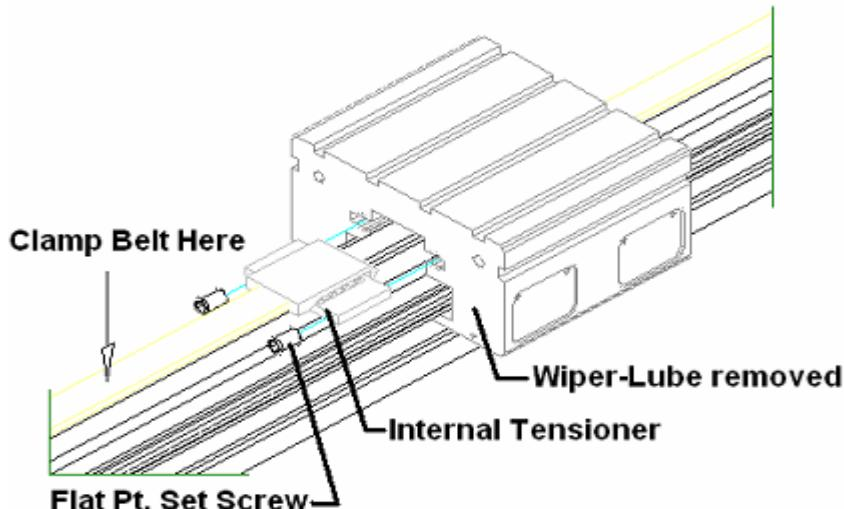

Figure 2
- 2) Clamp belt to track profile, in order to prevent belt from moving. (See figure 2)